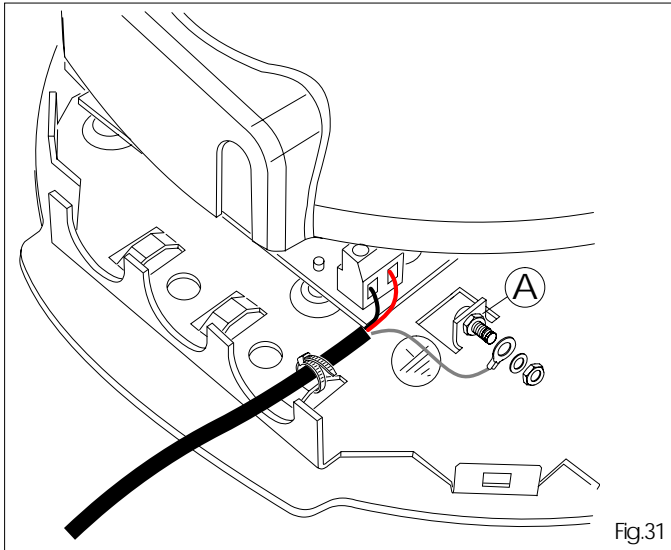

Fig.31
Connect the system's earth wire to the dedicated terminal (see ID sticker – fig.31 ref.A).
9.1 Connect the power cable, as shown in figure 31, securing it with a clamp in the indicated area.
9.2 Fit the screw in the appropriate seat and tighten with washer and nut (fig.31 ref. A).